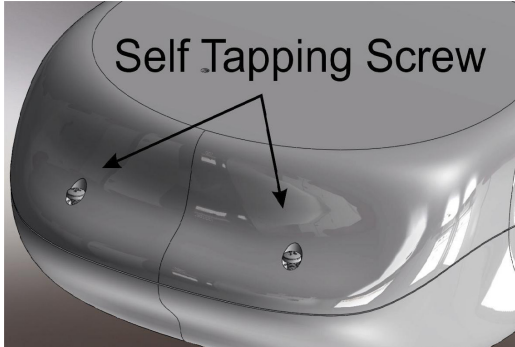

Figure 24
- Remove the 2 M3X16 self tapping pan head screws using phillips screw driver and remove the bottom cover as shown in the Figure 24.